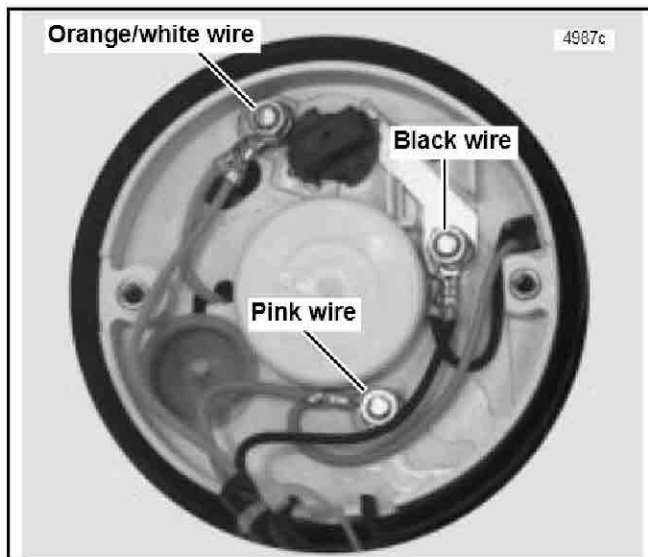

Figure 10. Connecting Harness To Tachometer
- See Figure 10. Connect ring terminals to tachometer as shown.